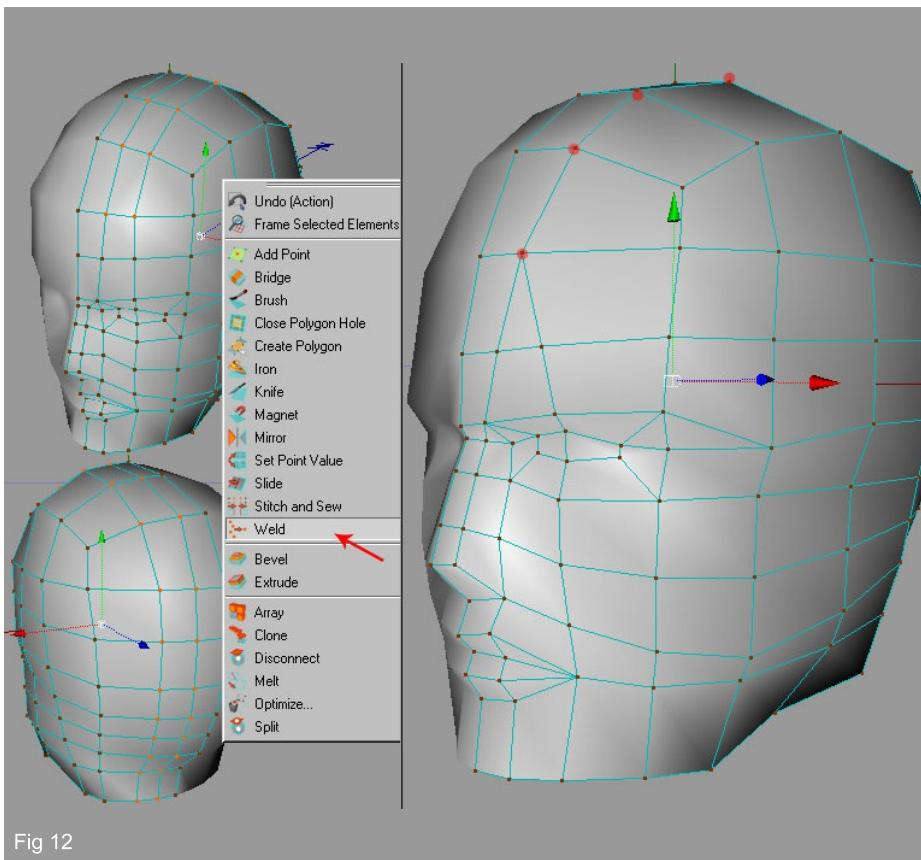

Fig 12
12. As we gradually refine our model we inevitably add more detail—but sometimes it is useful in low poly characters to actually remove unnecessary detail that can be supplemented by a texture. At the moment we have six rows of polygons running over the top of the head—more than we really need. We will now weld the marked vertices in fig 12. Select two points each time, right click and choose Weld from menu. Repeat this operation until you get the mesh as shown.